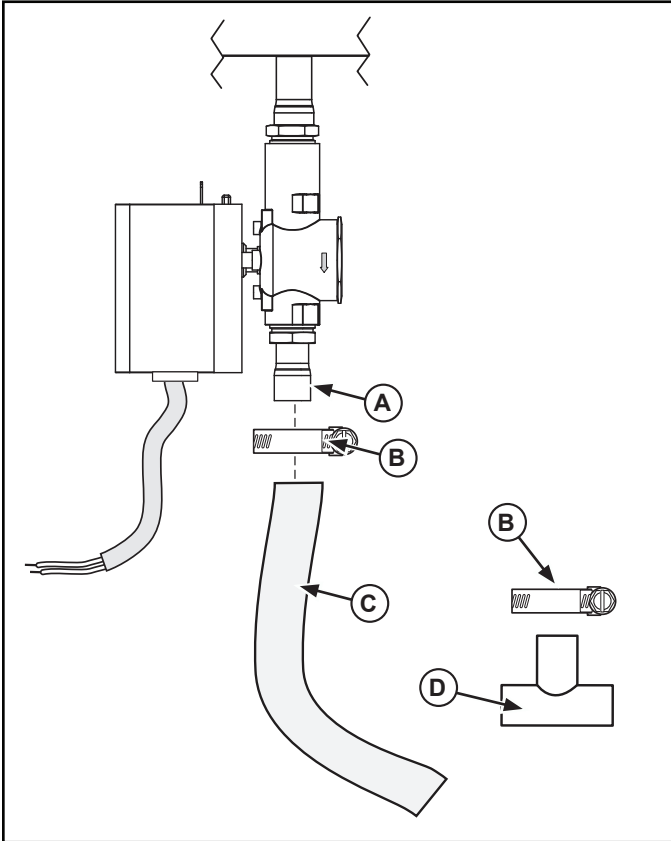

**Figure 5. Lever Connector.**
11. To use the lever connectors (See Figure 5):